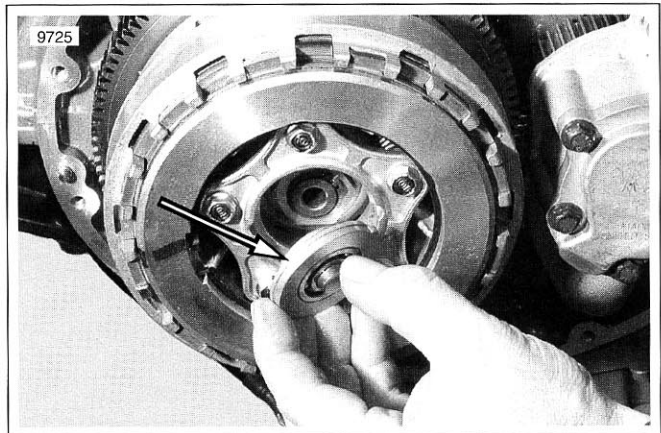

Figure 3-78. Lifter Guide
4. See Figure 3-78. Remove retaining ring and lifter guide.